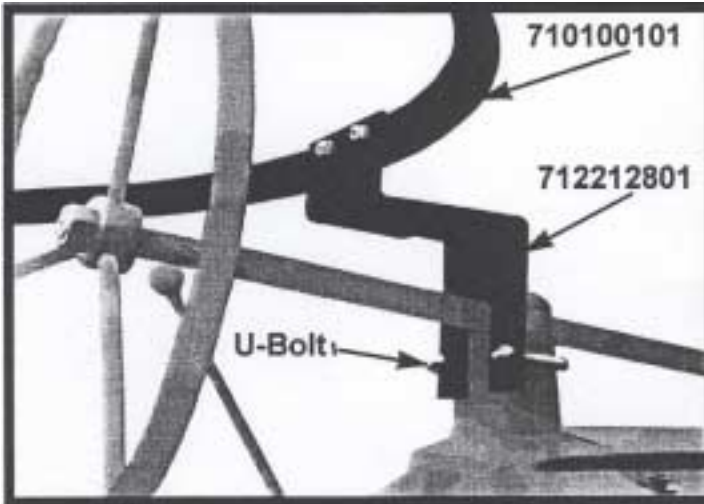

Figure 1
**Model 50, 520, 60, 620 place Mount Bracket on back side of steering column support. See Figure 1**